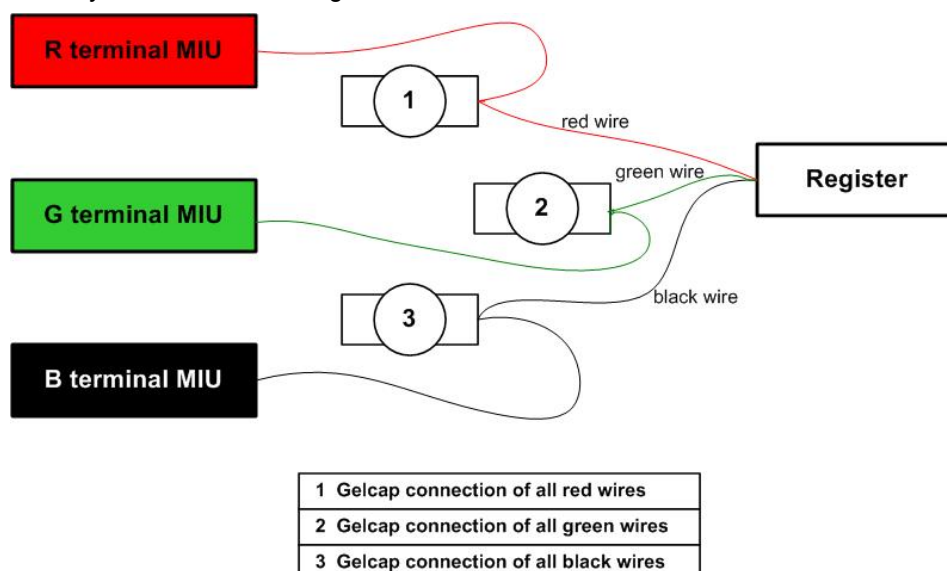

Figure 19: Interconnection of Like Terminals
1. Connect each color wire with the appropriate color wire from the pigtail and both registers, until all three colors have been successfully connected. See Figure 19.